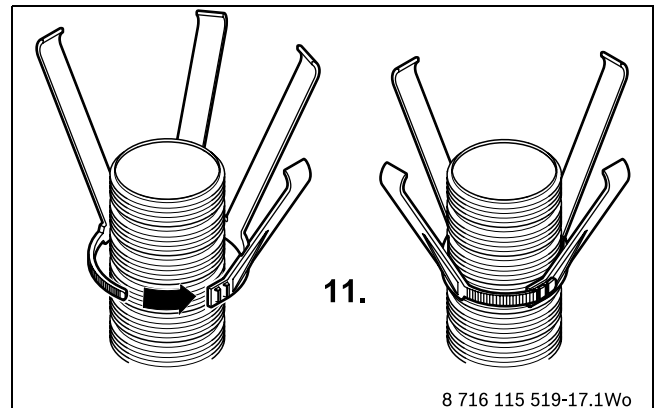

Fig. 18 Fitting the centralising spacer
11. Secure the centralising spacer around the flexible liner as shown in fig. 18.